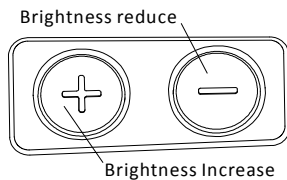

Fig 4
1. **Turn on:** Press brightness increase button "+" or brightness decrease button "-" one time, (see Fig4), the power is turned on.